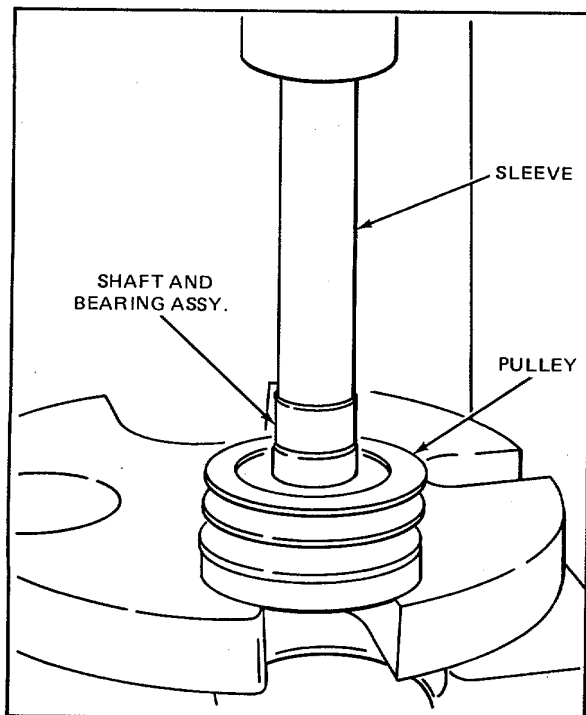

Figure 3. Installing Shaft and Bearing Assembly in Idler Pulley
1. Apply a minimum of 2500 lbs pressure only on the outer race of the bearing as shown in Fig. 3 and press the bearing and shaft assembly into the idler pulley until the outer race of the bearing is flush with the inside surface of the pulley.